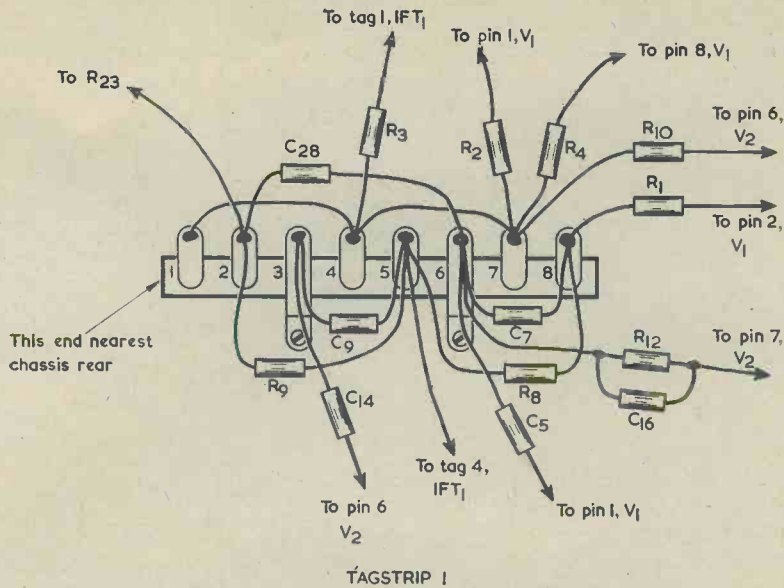

Fig. 7. The wiring and components fitted to Tagstrip 1
3. Turn next to Fig. 7, which shows Tagstrip 1. Wire up all the components shown here, soldering all connections except that at tag 1. The free lead from tag 2 should be some 6in. long, but that from tag 5 need only be about 4in. in length (as should all the free leads from Tagstrips 2 and 3). The leads are shortened as necessary when they are later connected into circuit.